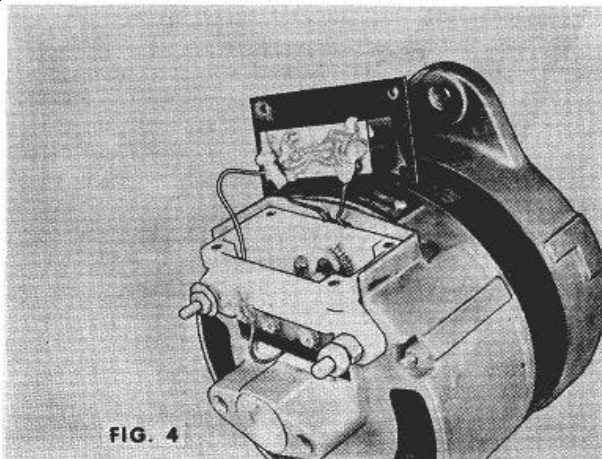

Fig. 4
2. Remove four screws and carefully lift regulator free of housing. Remove red and black leads from regulator, noting their position to facilitate reassembly. (See Figure 4.)
3. Remove lead from diode trio to terminal on regulator housing. Loosen inner nut, which will allow blue regulator lead to be withdrawn from under head of terminal screw. Remove regulator. (See Figure 4.)
4. Lift brush and spring assemblies out of housing. (See Figure 4.)